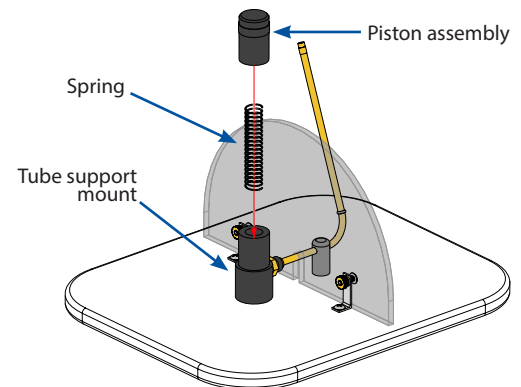

Figure 3
3. Insert the spring into the tube support mount on the launcher base (Figure 3). Place the piston assembly over the top of the spring with the hollowed-out portion of the piston in the downward position.